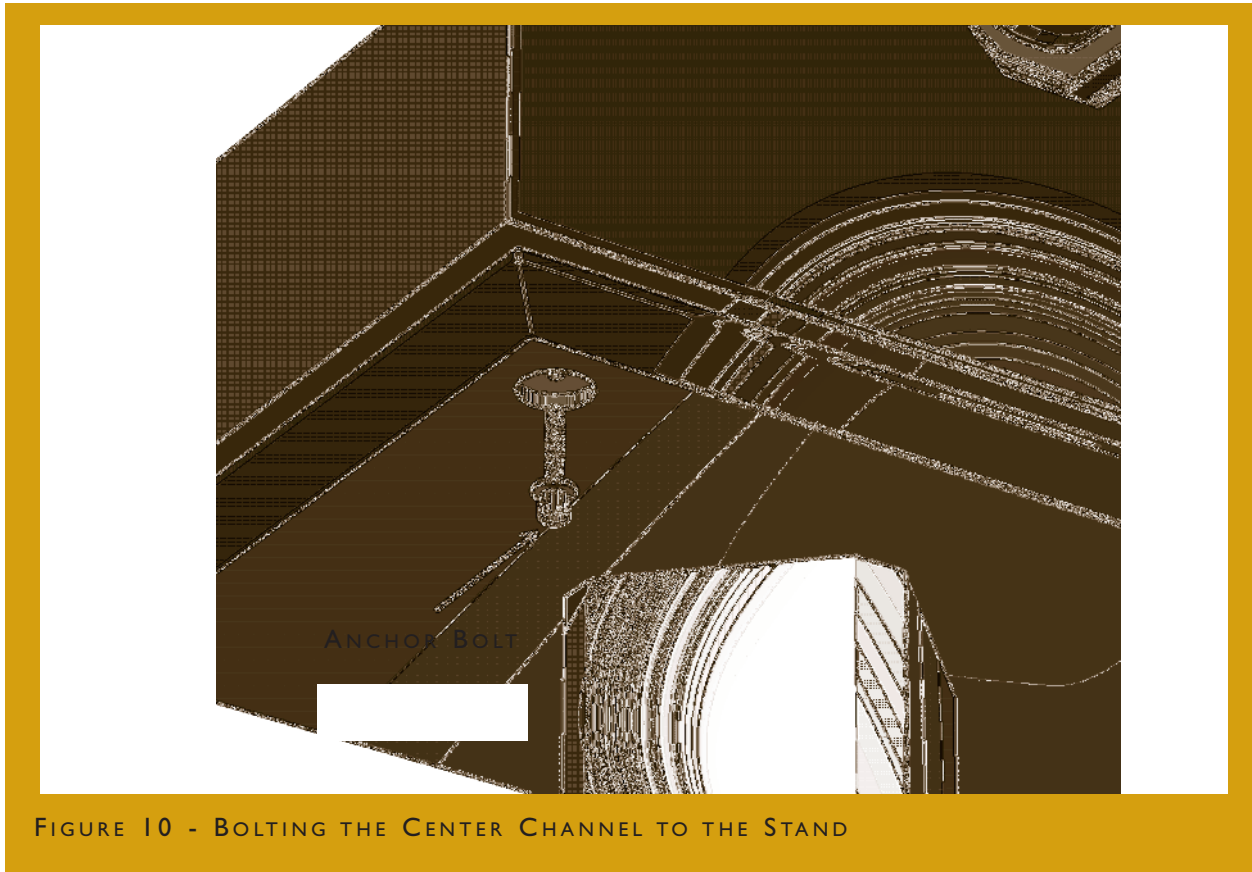

FIGURE 10 - BOLTING THE CENTER CHANNEL TO THE STAND
4. Bolt the Center channel to the stand using the four 3/8"-16 threaded socket head capscrews and washer provided (see Figure 10).